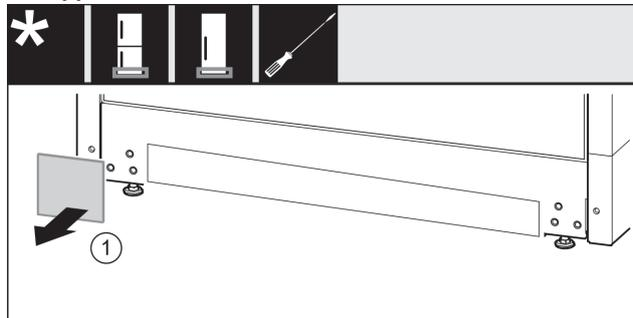

Fig. 24
- ▶ Remove the cover. Fig. 24 (1)